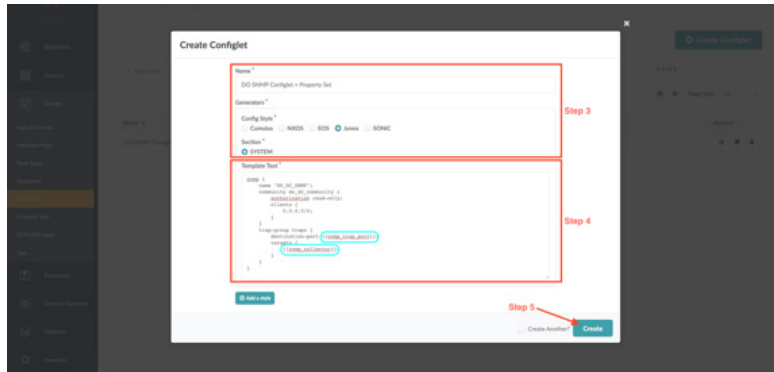

Figure 7.19 Creating a New Configlet
Step 3: Assign a Name, choose Junos as the Network OS type, and text as the Configlet method. See Figure 7.19.